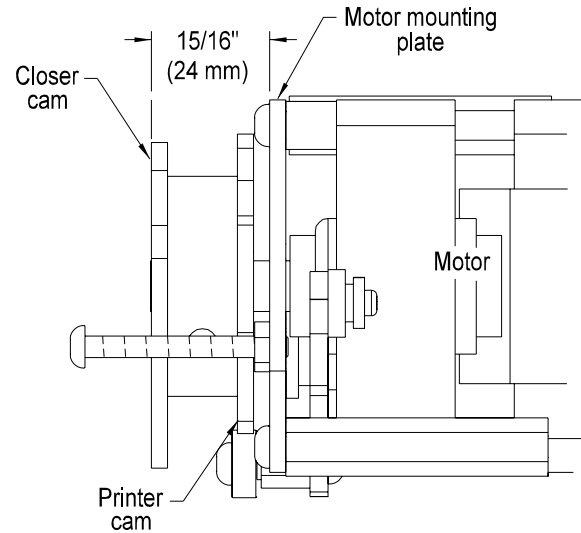

Figure 3.14
1. Set the lateral (side to side) position of the cam assembly so the outside edge of the pick cam measures 15/16" (24mm) from the outside edge of the motor plate (Figure 3.14)
Q. INK ROLL ARM POSITION: (Figure 3.14)